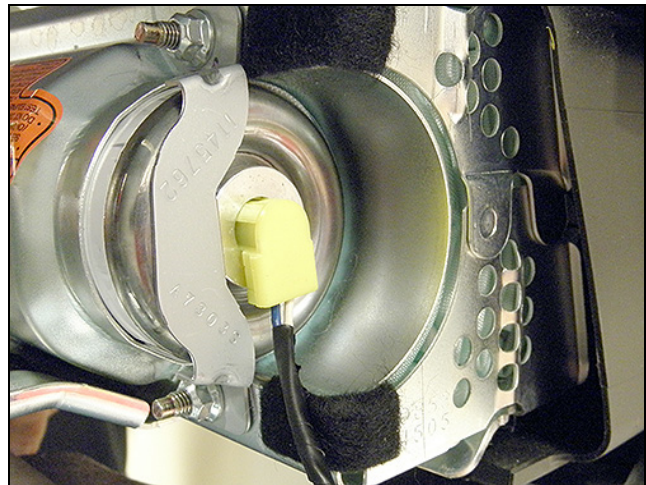

Figure S21
- Refer to Figures S21, S22, and S23.